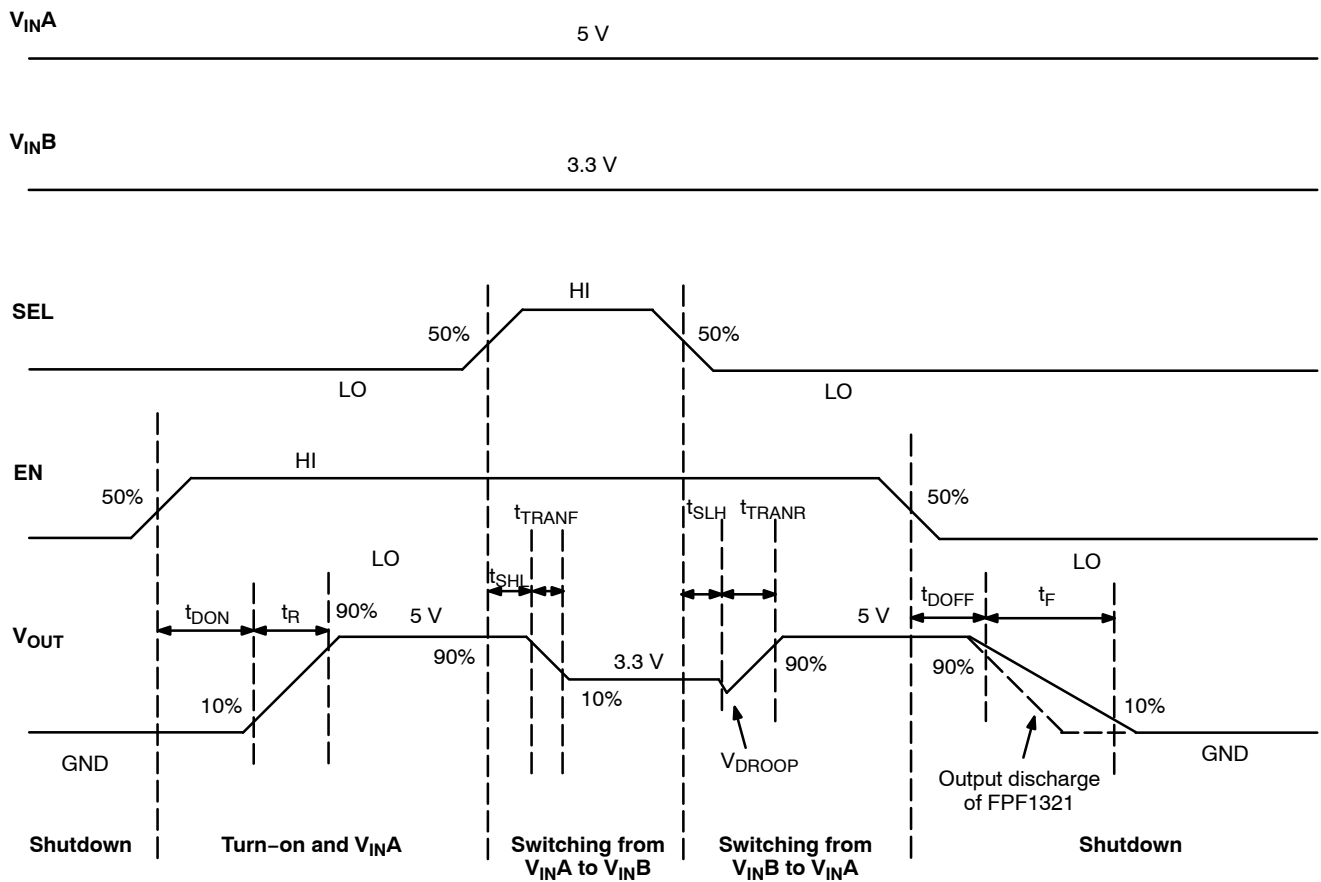

Figure 4. Dynamic Behavior Timing Diagram
4. $t_{DON}/t_{DOFF}/t_R/t_F/t_{TRANR}/t_{TRANF}/t_{SLH}/t_{SHL}$ are defined in Figure 4.